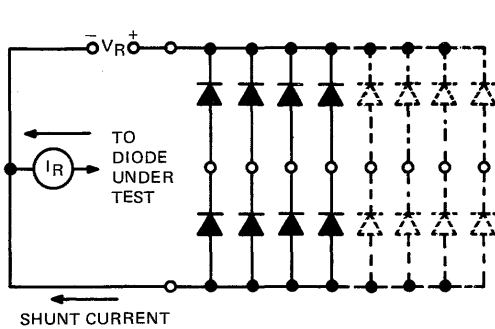

FIGURE 1—TEST CIRCUIT FOR COMMON-CATHODE DIODES
NOTES: 3. Test conditions and limits apply separately to each of the diodes. The diodes not under test are open-circuited during the measurement of these characteristics except for the measurement of  $I_R$  on arrays having both common-cathode and common-anode diodes (see Figures 1 and 2).
4. For arrays having both common-anode and common-cathode diodes see Figures 1 and 2, Parameter Measurement Information section.